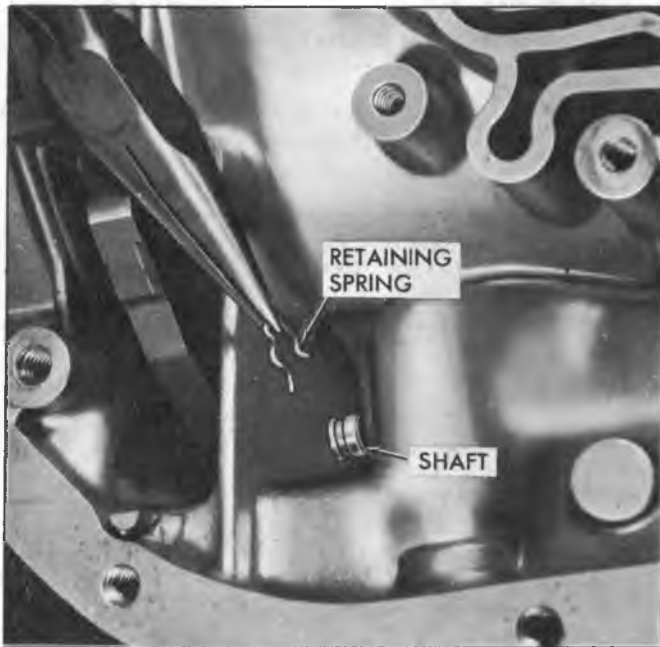

Fig. 128T--Installing Parking Shaft Retaining Spring
2. Install parking pawl shaft retainer clip (fig. 128T).